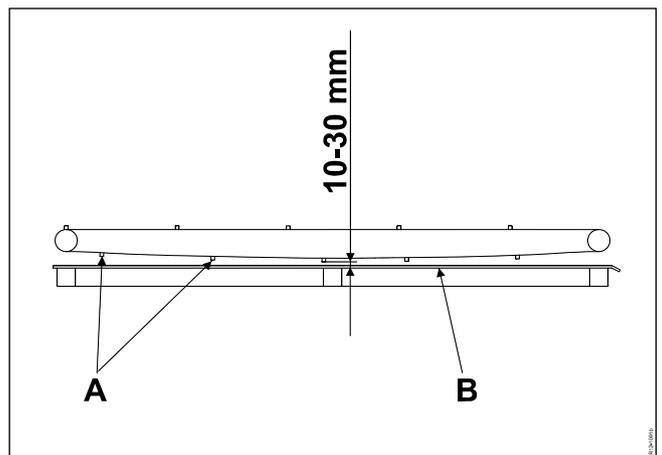

Fig. 4-16
Fig. 4-16 1) The conveyor belt must be tightened correctly so that the carriers **A** do not touch the slide bars **B** on the frame. If they do, adjustment must be made according to item 6 and 7 in the section "CORRECT TIGHTENING OF CONVEYOR BELT".
2) The conveyor belt must be running correctly on both rollers. If the conveyor belt is not running, readjustment must be made according to item 7 and 8 in the section "CORRECT TIGHTENING OF CONVEYOR BELT".